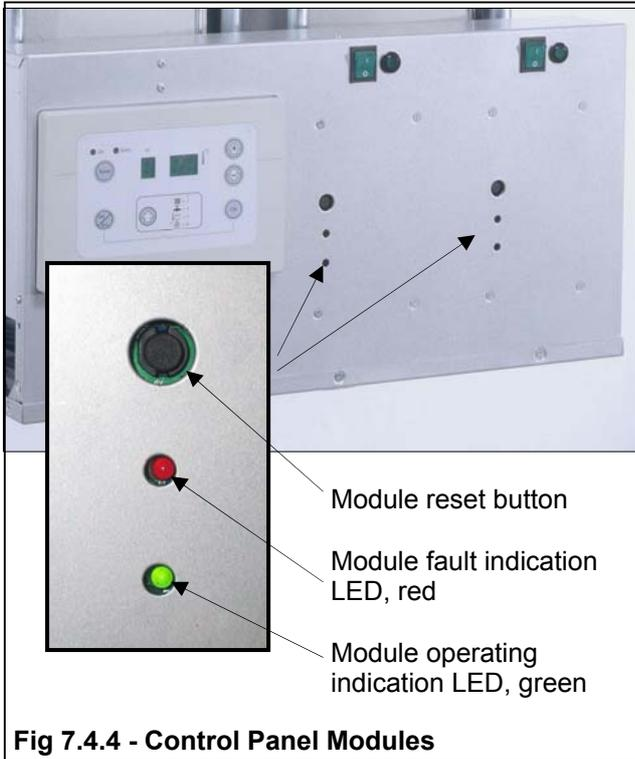

Fig 7.4.4 - Control Panel Modules
3. Start the individual boiler module using the on/off switch located on the front of the control panel for the chosen module. Milborne 382 / 502 models have 2 switches on the front of the control panel. It is therefore important to select the switch corresponding to the boiler module being commissioned. See fig 7.4.4